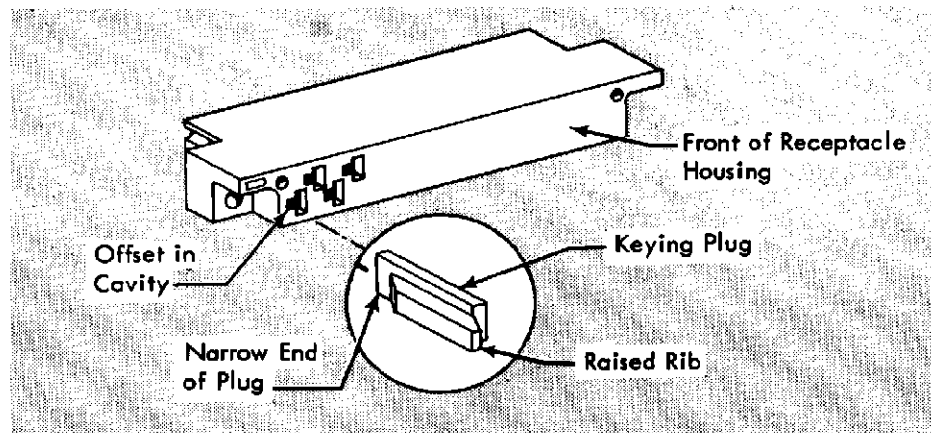

Fig. 1
- (a) Line up Raised Rib on Keying Plug with Offset in Cavity. See Figure 1.
- (b) Push Keying Plug; narrow end first, into Cavity until it is just below surface of Housing. See Figure 1.